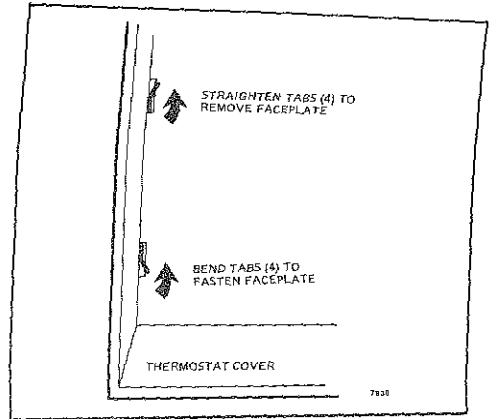

Fig. 8—Replacing cover faceplate.
1. Inside thermometer cover, bend faceplate tabs parallel to side of cover and remove. See Fig. 8.